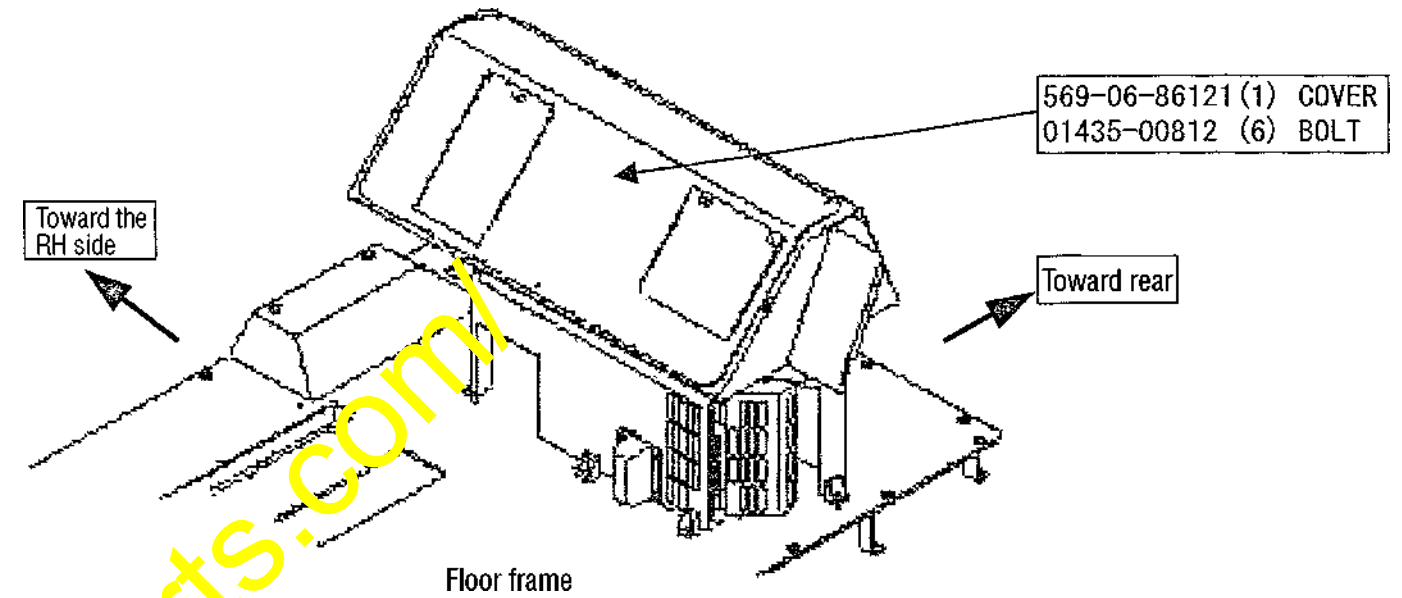

Fig. 1
- ① Removing the cover (Refer to Fig. 1.)